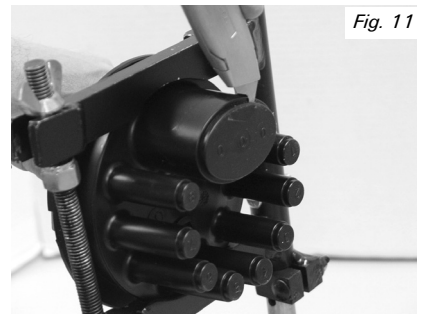

Fig. 11
1. Open the desired port(s). Heat the ports first with a hot air gun to soften them, then cut at the ridge with a hook-blade utility knife or a hacksaw. (Figure 11)